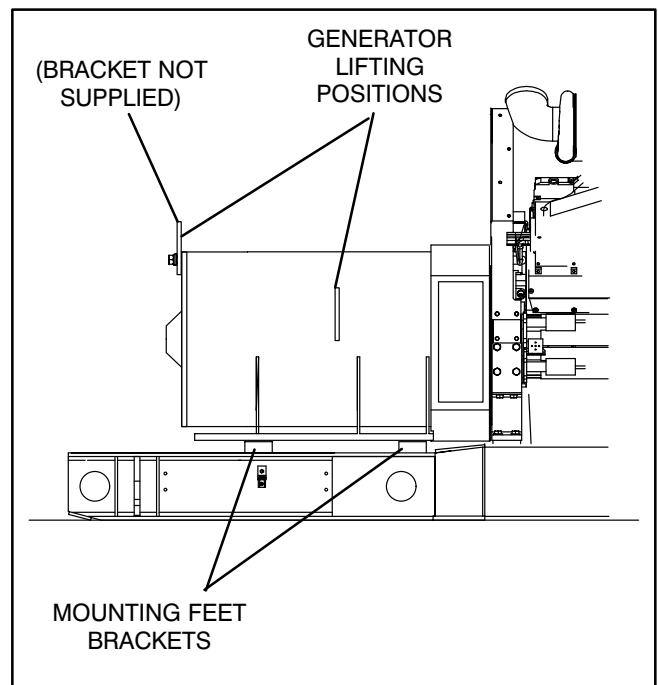

FIGURE 4-8. FRAME 7 LIFTING POSITIONS
10. Use a hoist or similar lifting device to support the control housing assembly (see Figure 4-8).
19. Assemble lifting eyes to generator (see Figure 4-8). Rear of generator requires a bracket (not supplied) with three holes, to attach lifting eye to rear of generator. Secure this bracket to the top of the generator housing using two of the bolts removed in Step 16.
23. Using an adequate lifting device, lift the generator (at lifting eyes, and main stator housing) until the mounting feet brackets are clear of the frame member (see Figure 4-8).